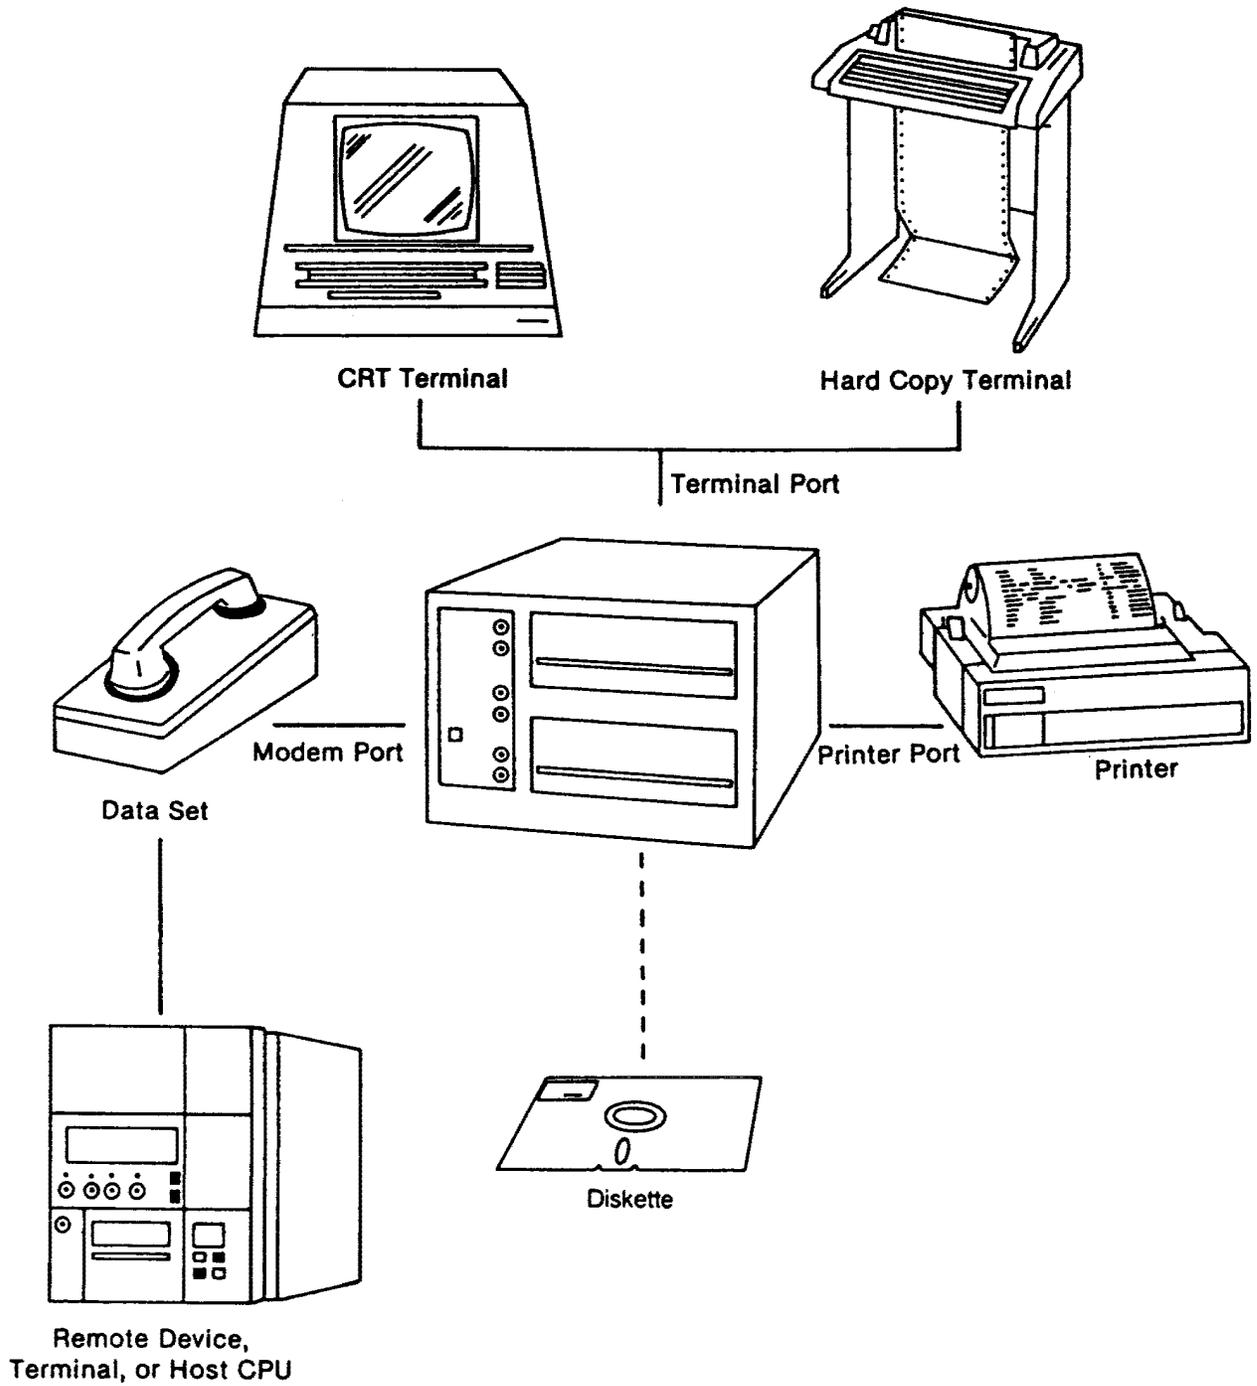

Fig. 1 - Typical Station Arrangement
1.08 In a station arrangement, the Comm-Stor II unit is positioned between the data set and the terminal (and optionally, a printer). Refer to Fig. 1 for an illustration of a typical station arrangement.